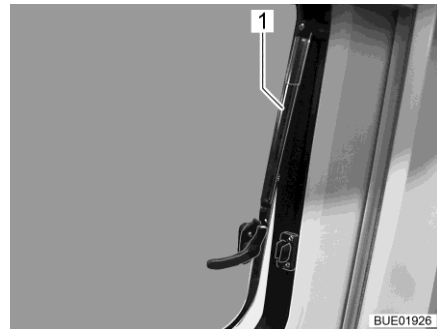

Fig. 15 Hinged window with automatic hinges, open
- Open hinged window half up to the required position. Allow the hinged window to engage automatically with the automatic hinge (Fig. 15,1).